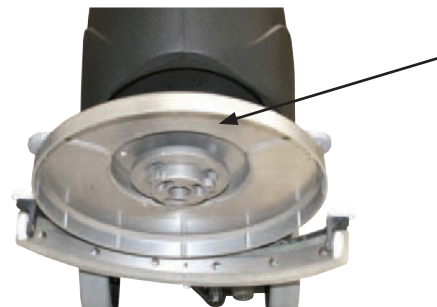

Fig 6
- Carefully lift the front of the machine to expose the clutch plate (Fig 6).